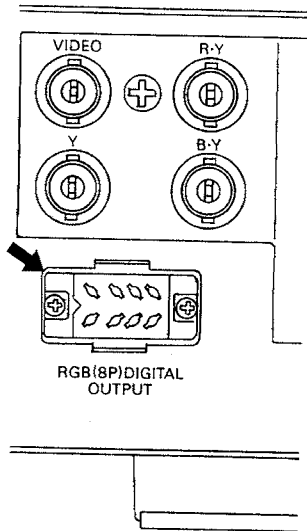

Figure 4.17
4.5.3 TTL RGB Signal Output (See Figure 4.17, 4.18 and Table 4.6)